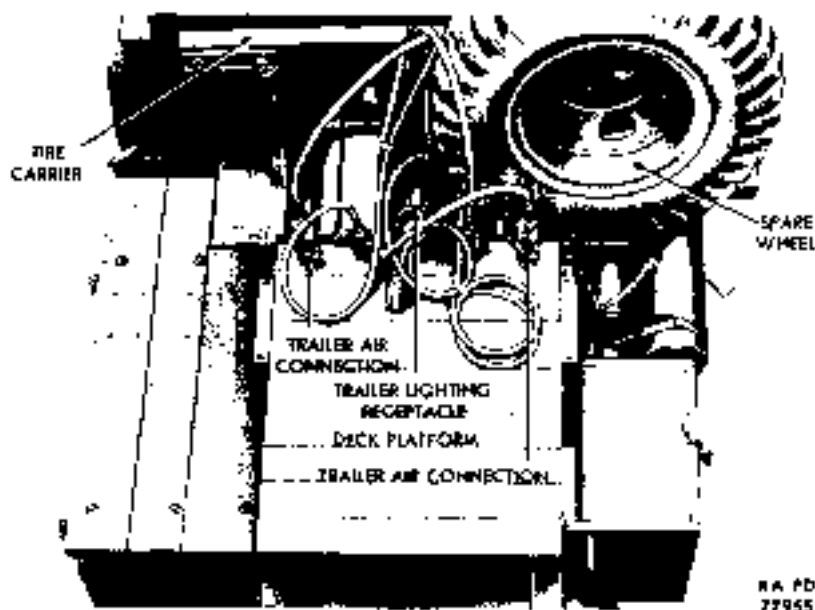

Figure 53 - Trailer Connections and Deck Platform
a. Remove Spare Wheel (fig. 53). Unlock padlock. Remove the two nuts, lock washers, and clamp bracket which secure wheel to tire carrier assembly, and remove wheel.
b. Remove Trailer Lighting Receptacle and Deck Platform Assembly (fig. 53). Remove the two bolts, nuts, and lock washers which secure trailer lighting cable receptacle bracket to deck platform, and free bracket from deck platform. Detach the two hose couplings, and pull hose free from deck platform. Loosen clamping stud which secures air tubing to semitrailer hose assembly, and pull tube free from assembly. Remove the 12 bolts, nuts, and 24 lock washers which secure frame to deck platform brackets to deck platform. Remove deck platform from vehicle.
l. **Install Deck Platform Assembly and Trailer Lighting Receptacle (fig. 53).** Position deck platform to frame. Secure with the 12 bolts, nuts, and 24 lock washers. Position trailer lighting cable receptacle bracket to deck platform, and secure with the 2 bolts, lock washers, and nuts. Tighten clamping stud which secures air tubing
m. **Install Spare Wheel** (fig. 53). Position wheel to tire carrier. Secure with the two nuts, lock washers, and clamp bracket.